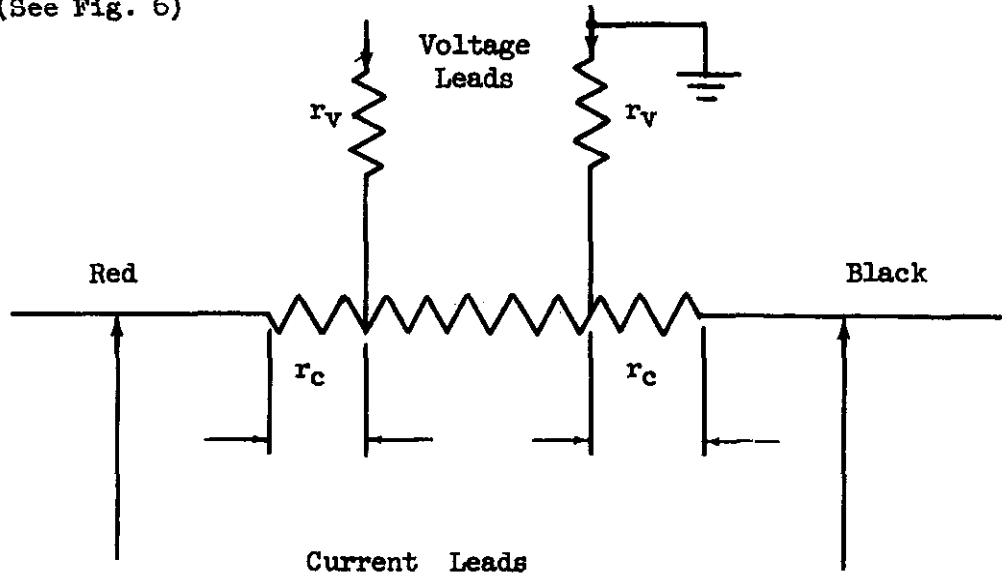

FIGURE 6. Series Resistance Measurements
3. ERRORS DUE TO SERIES RESISTANCE IN CURRENT AND VOLTAGE LEADS: Series resistance may be appreciable in such cases as resistivity profile measurements, or when low resistance connections to the sample cannot be made. (See Fig. 6)